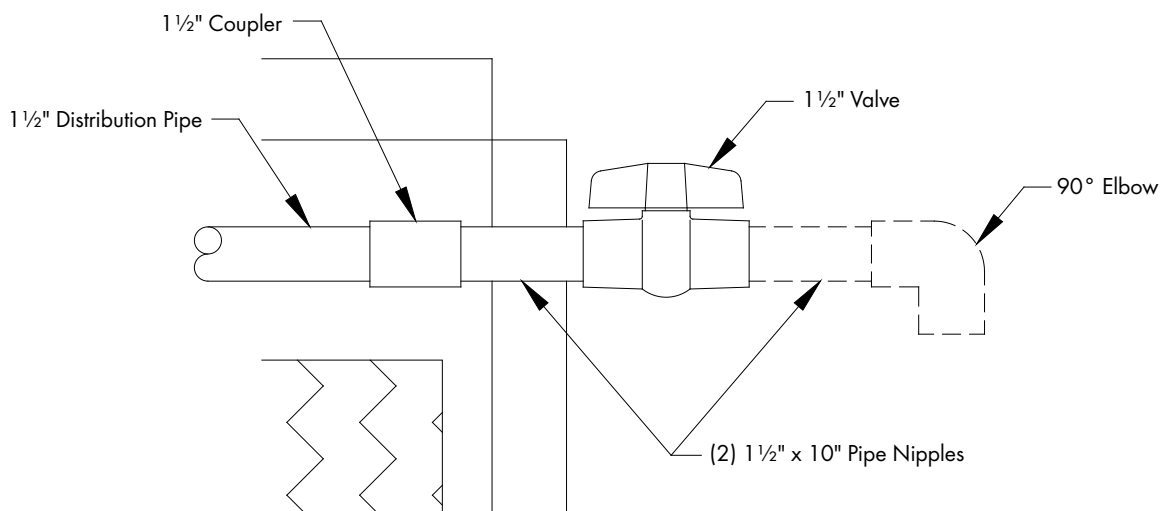

Figure 25
If Flush-out Kit (EC1507) was purchased, remove TEK Screw and Pipe Cap from end of Distribution Pipe. Assemble Flush-out Kit piping as shown. See Figure 25. Installation of 90° elbow and (1) 1 1/2" x 10" pipe is optional, depending on the desired direction of water flow.